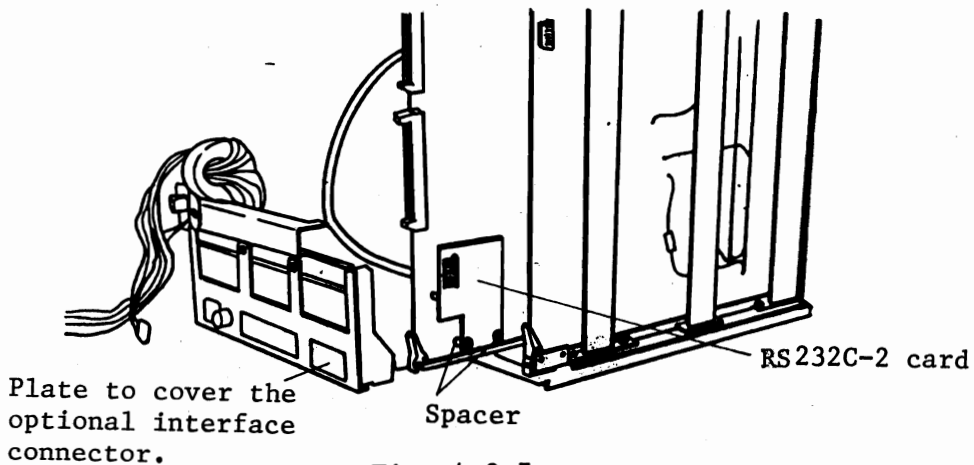

Fig. 4.3.7
- ④ As in Fig. 4.3.7, remove the palte to cover option interface connector.